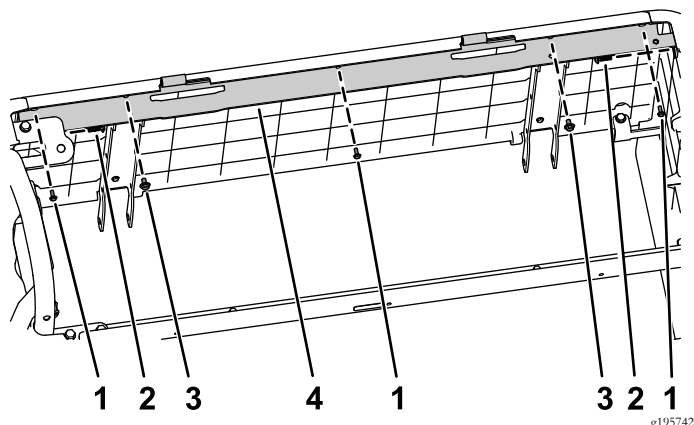

Figure 42
8. Install the seat support using 3 screws (#10 x 1/2 inch), 2 bolt with washer assemblies (1/4 x 1/2 inch), and 2 torx-head screws (Figure 42).